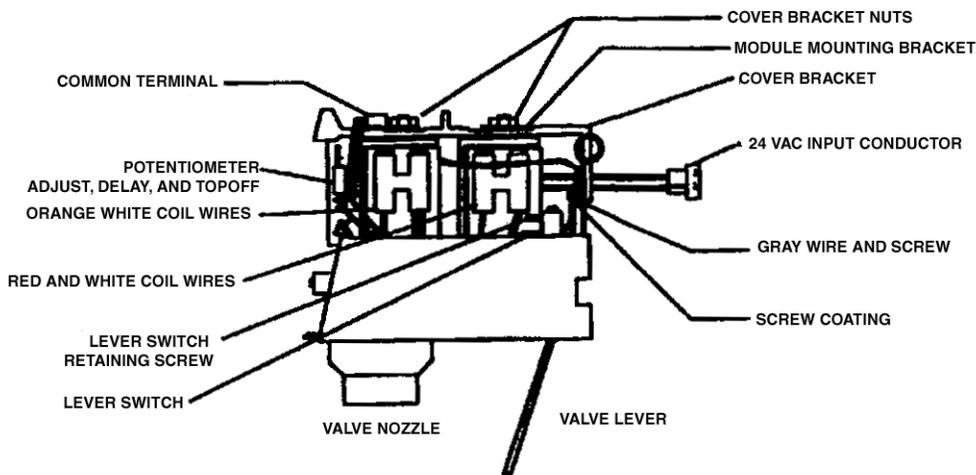

Figure 2 FFV Valve Side View
5. Remove the nut holding the white wires with the ring terminal to the valve cover mounting bracket. (Refer to Figure 2)
6. Remove the nut at the top of the valve assembly which holds the bracket and black box of the module. (Refer to Figure 2).
10. Install the new module using the above procedure in reverse order for removing the module. Figure 2 shows where the gray lever wire must be located when module reassembly to the valve bracket is complete. The gray wire must be located where it will not be cut or pinched.
- Connect power lead to dispenser valve. Place cup against lever and allow cup to fill and "topoff". Module is set for two topoffs. Refer to Figure 2 for location of power lead.
- Topoff can be eliminated if potentiometer (Refer to Figure 2) on module is turned counter-clockwise to minimum position. Cycle time between topoffs is increased by turning the potentiometer clockwise in small increments until the desired time between topoffs is set. Ensure the cycle time between topoffs meets the customers needs.